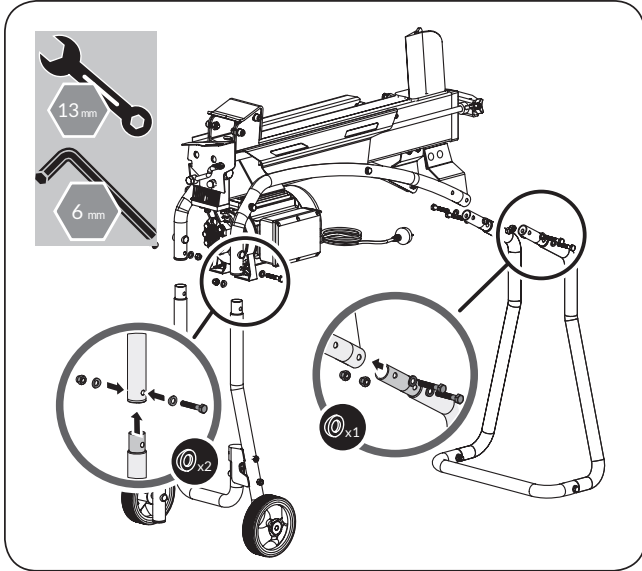

Figure 5
5. Insert the up end of the support legs into the support frame tube and line up the holes, then secure with the two M8x45 bolts, arc washers, and nuts that were removed in step 4 and the other M8x45 bolts, arc washers, and nuts. (See **Figure 5**)